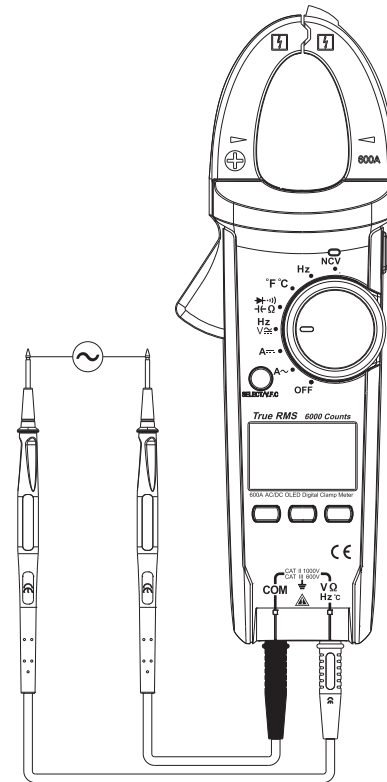

Fig. 4
**3.Measurement of AC voltage (shown as Fig. 4)**